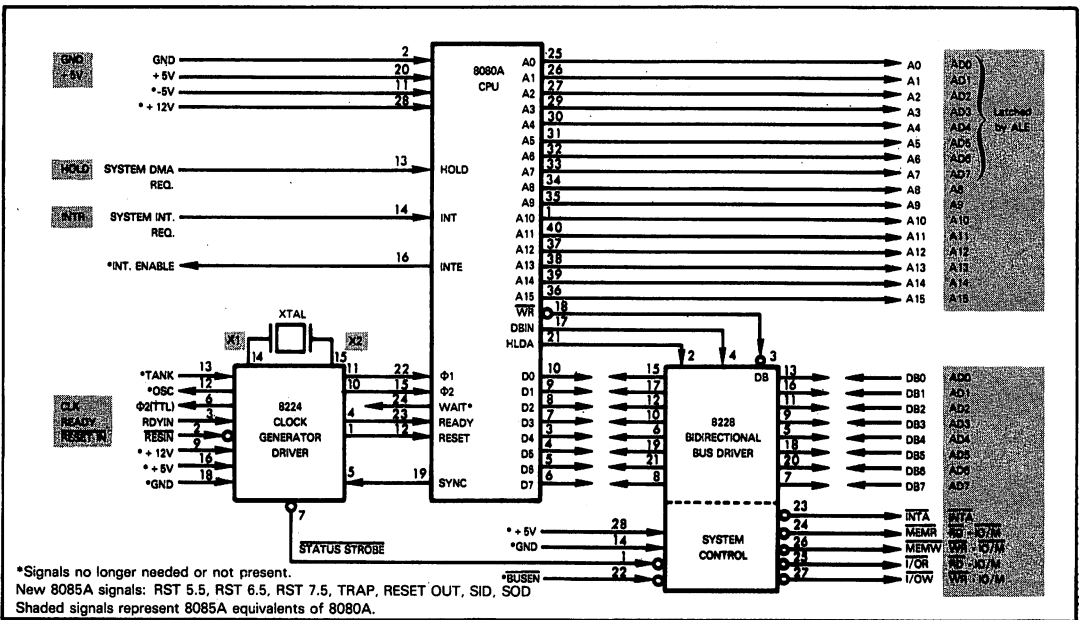

Figure 5-3. A Comparison of 8085A and 8080A/8224/8228 Signal Interface
**No attempt has been made to maintain any kind of pin compatibility between the 8085A and the 8080A. Nevertheless, as illustrated in Figure 5-3, it is relatively simple to derive equivalent system busses when using the 8085A or 8080A.** But look at Figure 5-3 with an element of caution. Many logical combinations of 8085A signals are shown reproducing 8080A signals; in reality you will never generate such logical combinations — a point which will become clear as the chapter proceeds. **The purpose of Figure 5-3 is to illustrate the equivalence of the system busses generated by the 8085A and the 8080A without indicating that creation of equivalent busses is desirable.**